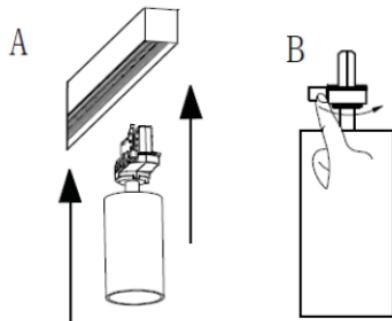

Fig. 2
- Align spotlight with track, making sure correct orientation (A) before inserting into track. Once spotlight fully-in, turn securing lever anticlockwise (B) until fully locks and spotlight secure. Note: If lever very stiff or when fully turned spotlight not secure, check orientation or track is compatible. (Fig.2)